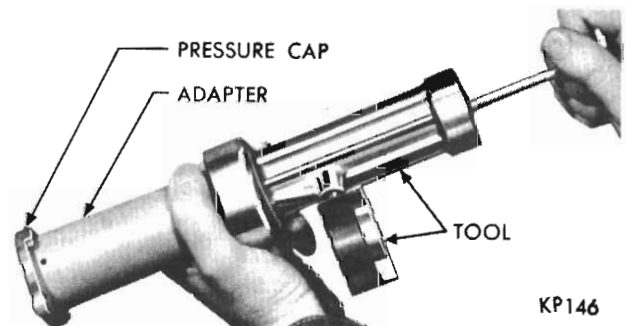

Fig. 4 – Testing the pressure cap (Tool E7C15)
(1) Attach neoprene seal and adaptor to tester E7C15 (see Fig. 4).
(2) Dip the pressure cap in water and apply cap to tester adaptor.
(3) Apply pressure to cap. If pressure cap fails to hold pressure within a range of 14 to 17 P.S.I., replace with a new, tested cap.